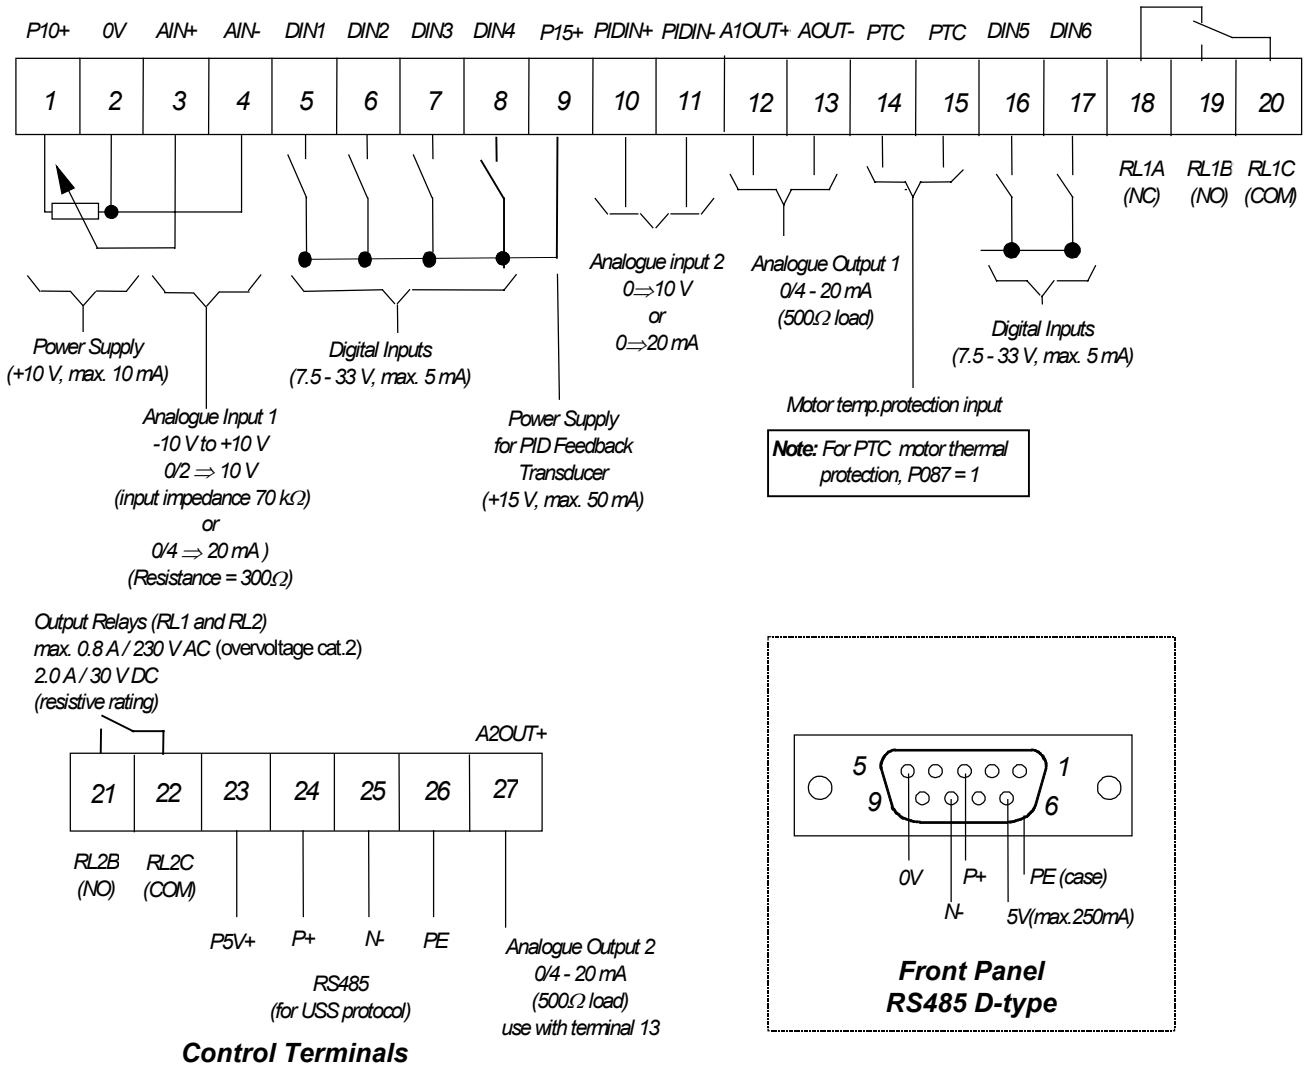

Figure 3.2.2: Control Connections - MIDIMASTER Vector
- (1) Connect control terminal 9 to terminal 5 via a simple on/off switch. This sets up the motor for clockwise rotation (default).
- (2) Connect a 4.7 k $\Omega$  potentiometer to the control terminals as shown in Figures 2.2.4 and 2.2.6 (MMV) (Figures 3.2.2 and 3.2.4 (MDV)) or connect pin 2 (0V) to pin 4 and a 0 - 10 V signal between pin 2 (0V) and pin 3 (AIN+).
- (3) Set the Analogue Input 1 Configuration DIP selector switches 1, 2 and 3 for voltage (V) input. (see *Figure 3.2.2-3.2.4, Section 4.1.2*)
- (4) Secure all covers to the unit and then apply mains power to the inverter. Set parameter P009 to 002 or 003 to enable all parameters to be adjusted.
- (5) Set parameter P006 to 001 to specify analogue setpoint.
- (6) Set parameter P007 to 000 to specify digital input and disable the front panel controls.
- (7) Set parameters P021 and P022 to specify the minimum and maximum output frequency settings.